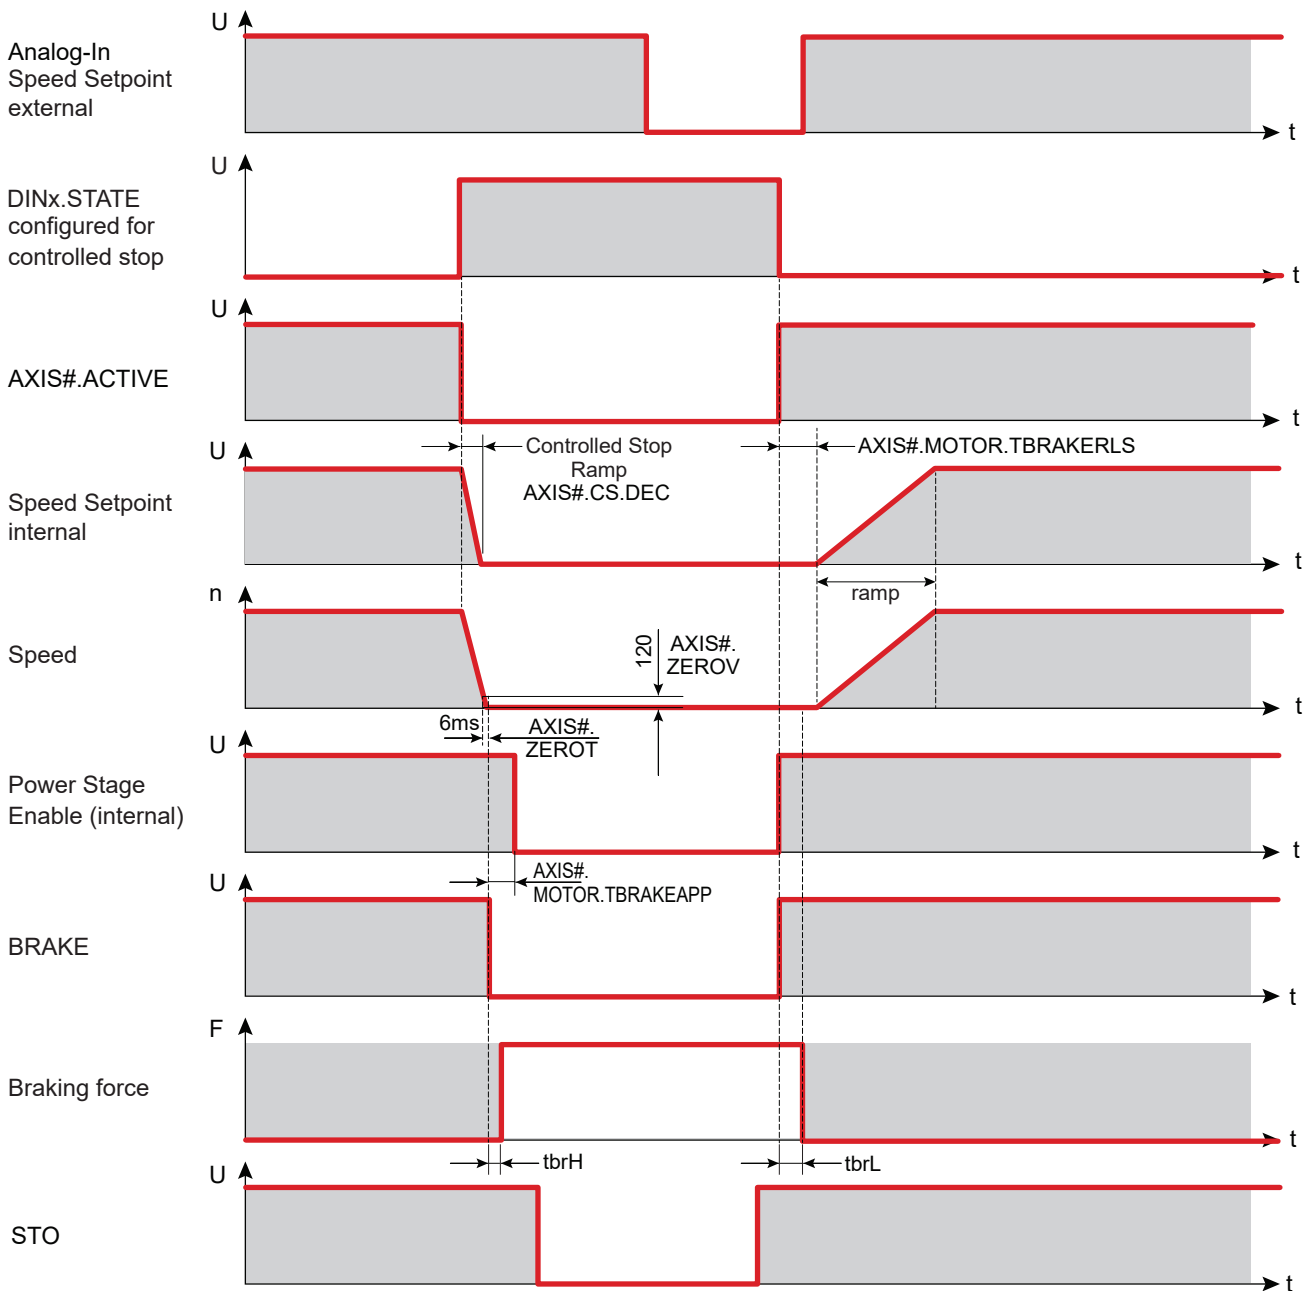

Figure 13-2: Holding Brake Functionality
15	• Response times measured on brakes connected to a Kollmorgen AKD drive. (Figure 13-2) • Response time of the brake measured with a diode and a transistor in power supply current.
- Figure 13-2 shows the timing and functional relationships between the controlled stop signal, speed, and braking force.